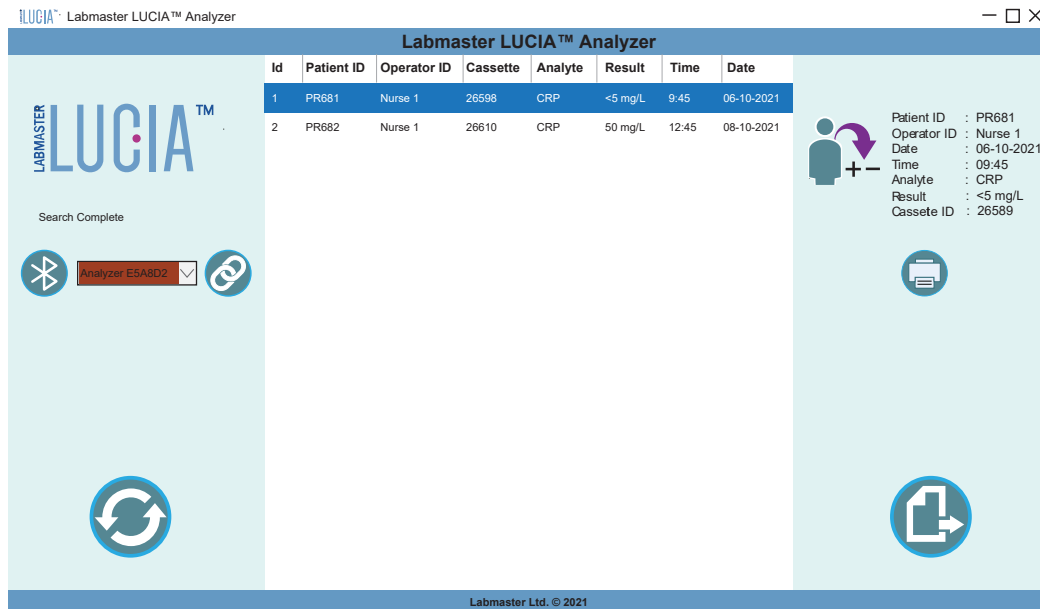

Figure 28. Labmaster LUCIA™ Analyzer Windows Application Home screen
- The application starts with Home screen as shown in Figure 28.